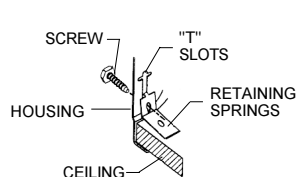

FIG.7
1. Place (3) holding springs, in the T slots. Slowly push downward using a short handle screwdriver, until trim is flush with ceiling, solidify with screws (3) (included). (Fig.7)